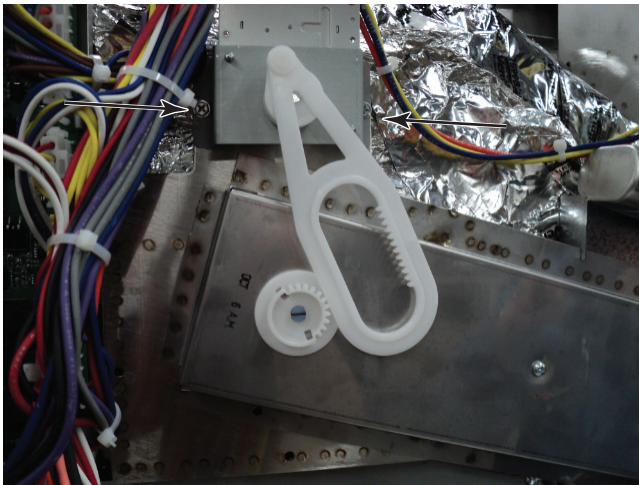
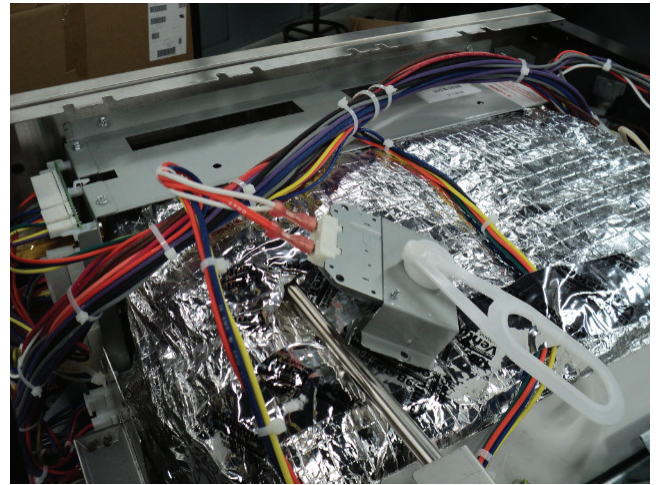

Figure 9
Figure 10
10. Remove two antenna motor mounting screws from bracket (Figure 9). Set antenna motor on top of oven (Figure 10).